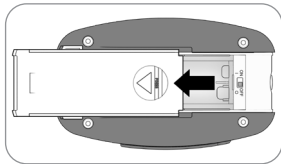

Fig. 2
2. Press down above the arrow and slide the battery compartment door completely off (Fig. 2). Set battery door aside.